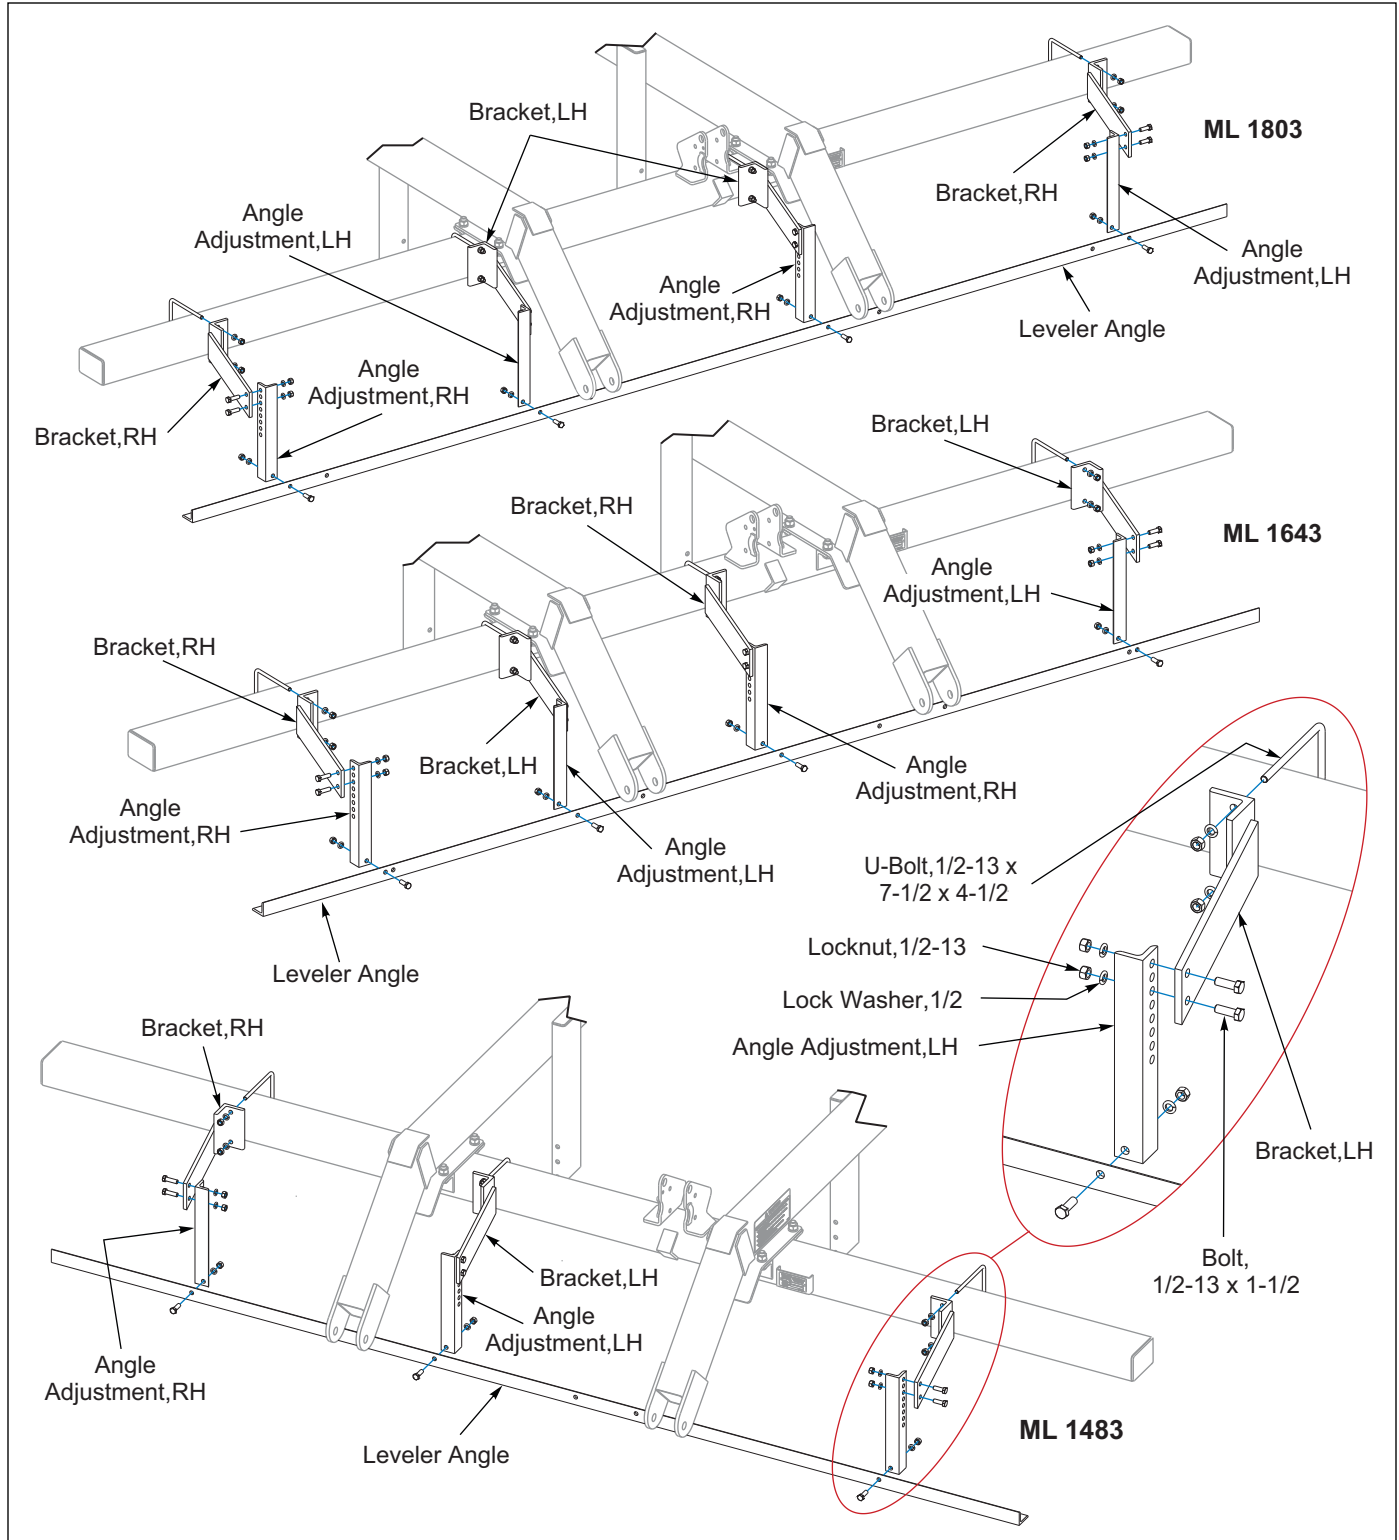

Figure 2-32: Land Leveler Kit - Optional
**Note:** If the soil pushes ahead of the bar it is set too low. Attach the LH and RH Brackets to the Front Frame Tube with 1/2-13 U-Bolts, Lock Washers, and Nuts per machine model. See Figure 2-32. Assemble the LH and